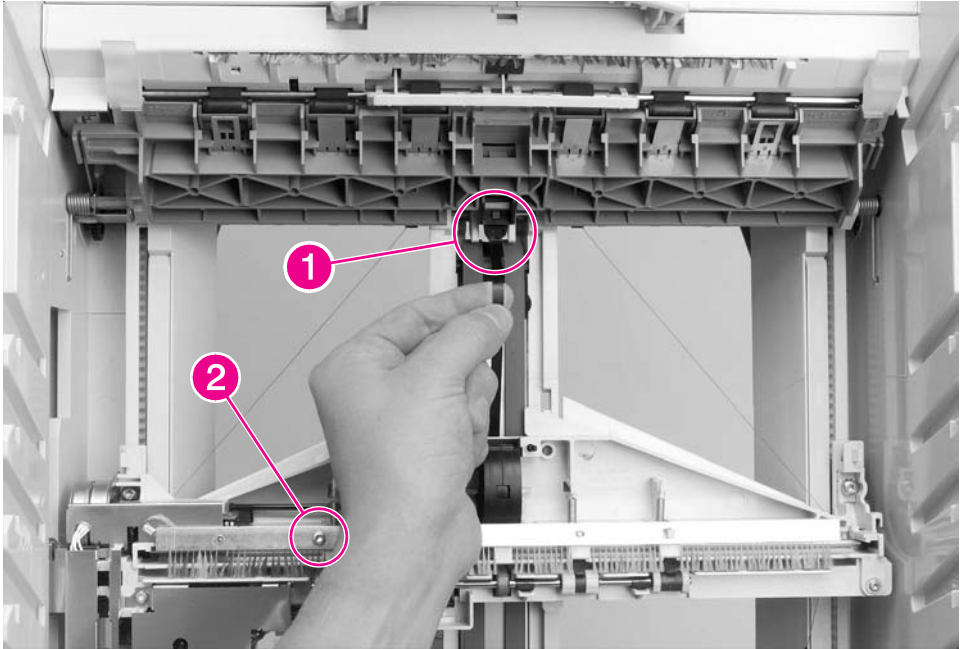

Figure 6-163 8-bin Mailbox Metal Tape and Housing Assembly (1 of 2)
- 2 With the Delivery Head Assembly at the top of the 8-bin Mailbox, hold the Metal Tape near the end, and push and release the retainer tab that secures the end of the tape to the top of the 8-bin Mailbox frame (Figure 6-163, callout 1). Then let the tape slowly rewind into its housing.
- 1 Thread the end of the Metal Tape behind the rollers (callout 4), and then pull the end of the tape to the top of the 8-bin Mailbox and reinsert it into place (Figure 6-163, callout 1).
- 3 Reinstall the static brush (Figure 6-163, callout 1).